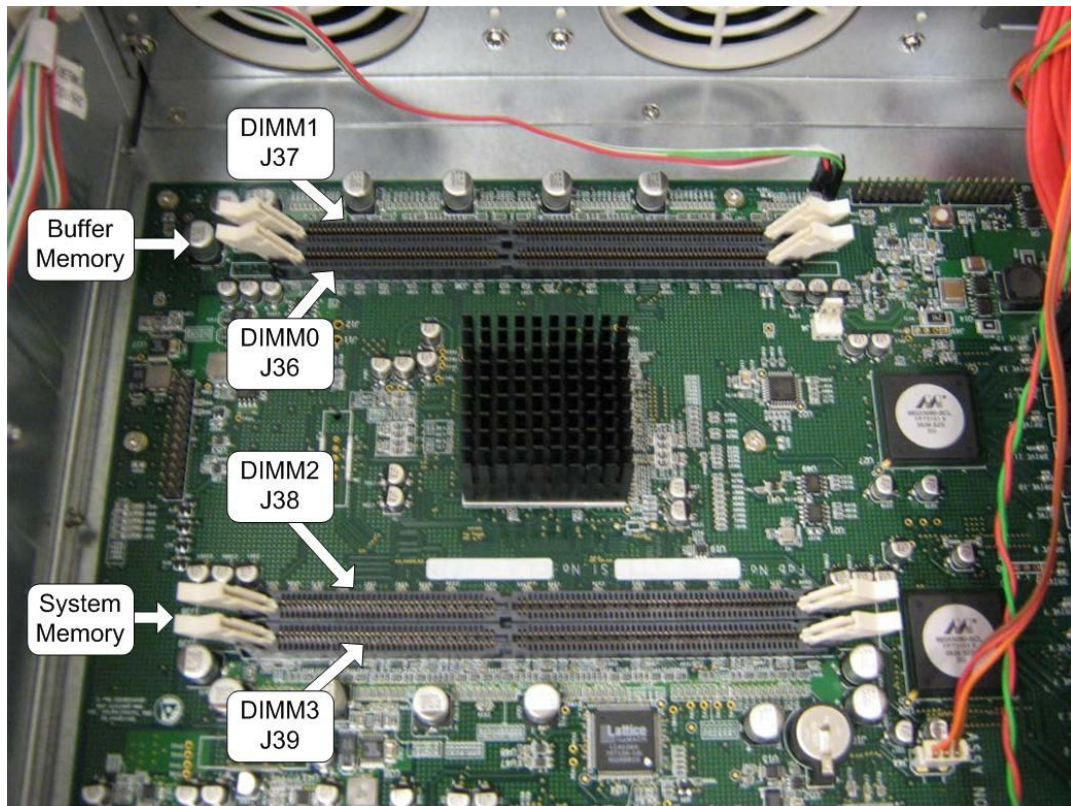

Figure A-6 Buffer and System Memory Location
**System Memory:** The xStack Storage controller can address up to 2GB of system memory, but only 512MB are required for operation of your controller. Your controller will have come standard with at least 512MB (2 x 256MB modules) making upgrading of system memory not necessary. Please see Figure A-6 system memory location.
**Buffer (Cache) Memory:** The xStack Storage controller can address up to 2GB of buffer memory, and comes standard with at least 512MB (2 x 256MB modules) installed. This should work well for most applications. However, several applications (such as video streaming) of the product could benefit from increased cache memory. Please see Figure A-6 for buffer memory location. Note on Memory: The xStack Storage controller's system and buffer memory must be installed as matching pairs. Table A-1 lists the specifications for DIMMs supported by the xStack Storage Array. These memory module specifications are crucial to the operation of your SAN array. Please visit the [www.dlink.com](http://www.dlink.com) website for tested memory modules.